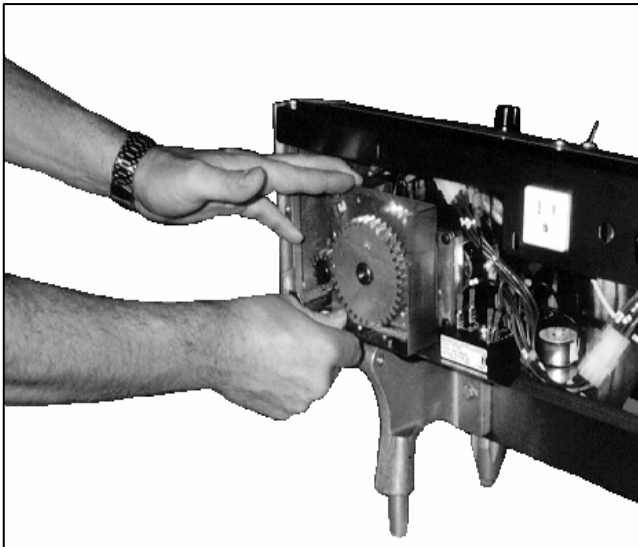

Figure 2-3. Removing the Conveyor Drive Motor.
4. Carefully pull the motor out of the heater head. See Figure 2-3.